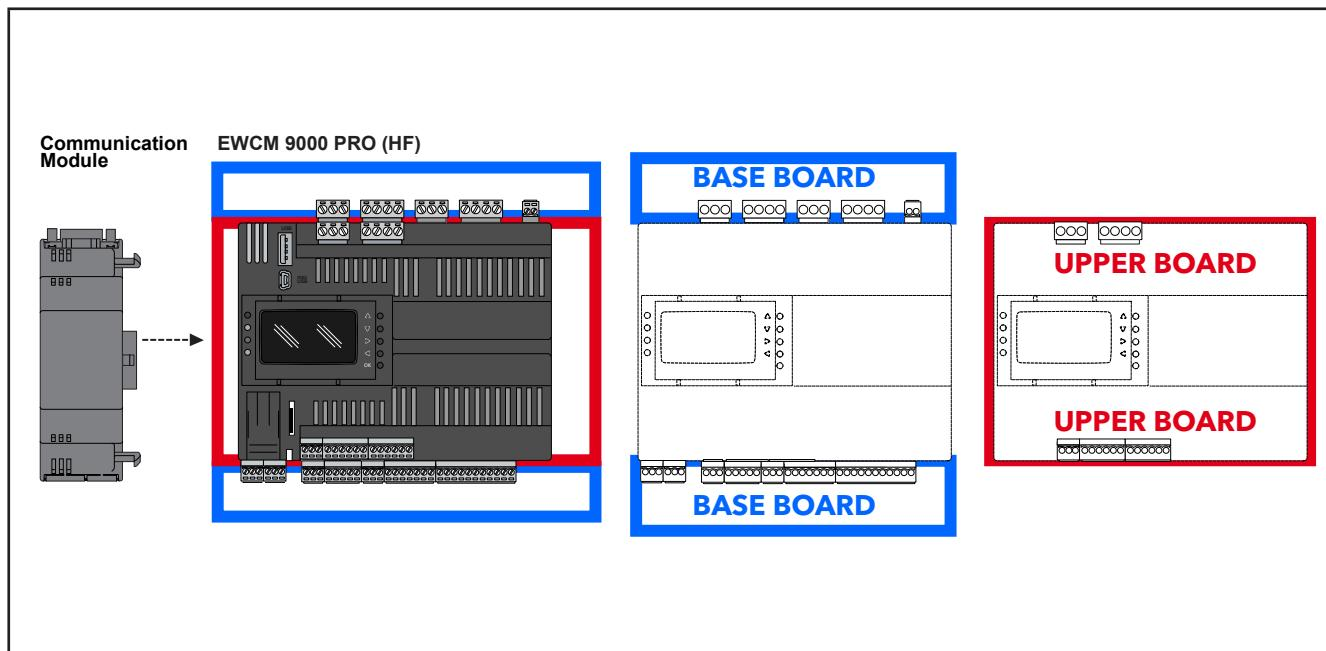

Fig. 2. EWCM 9000 PRO (HF): Base Board and Upper Board
1.1.2. Main features of EWCM 9000 PRO (HF)
The **EWCM 9000 PRO (HF)** range (see Fig. 2 on page 16) comprises a Base Board and an Upper Board.